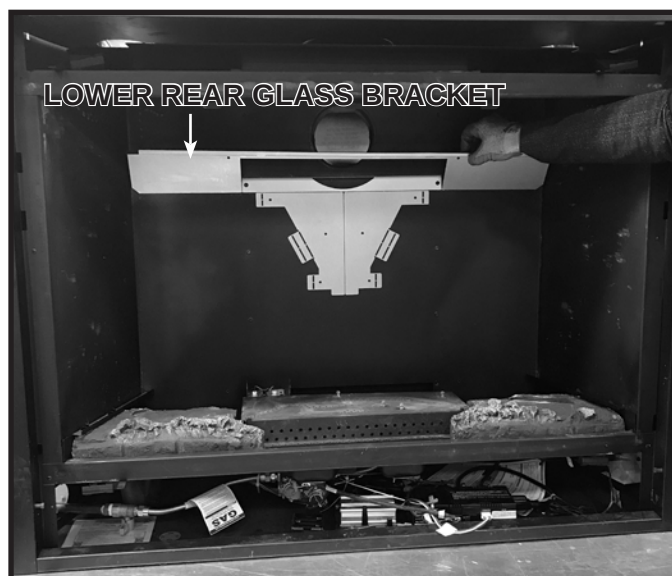

Figure 11.8 Removing Lower Rear Glass Bracket
2. Remove the rear lower glass bracket from the back of the firebox by pulling forward on the top edge to break it free. See Figure 11.8. Bend the center hand bend feature(s) “up” to about 45 degrees and install the rear lower glass bracket using the self drilling screws from the manual bag. The bracket must rest on the bottom of the firebox. See Figure 11.9 and Figure 11.10.